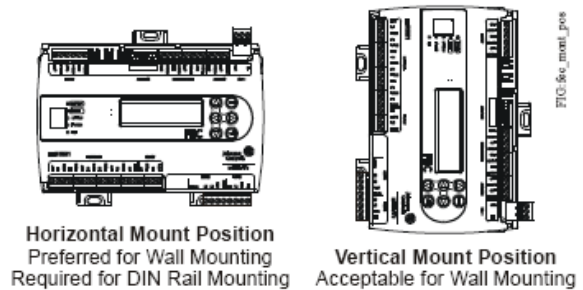
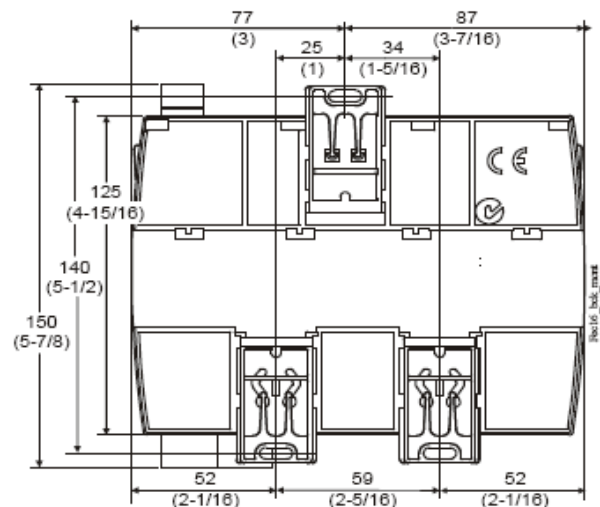

Figure 1: Controller Mounting Positions
Figure 2: Back of FEC16 Controller Showing Extended Mounting Clips, DIN Rail Channel, and
- Mount the FEC in the proper mounting position (Figure 1).
1. Securely mount a 20 cm (8 in.) or longer section of 35 mm DIN rail horizontal and centered in the desired space so that the controller mounts in the horizontal position shown in Figure 1.
2. Pull the two bottom mounting clips outward to the extended position (Figure 2).
3. Hang the controller on the DIN rail by the hooks at the top of the (DIN rail) channel on the back of the controller (Figure 2), and position the controller snugly against the DIN rail.
1. Pull the two bottom mounting clips outward and ensure they are locked in the extended positions as shown in Figure 2.
2. Mark the three mounting hole locations on the wall using the dimensions in Figure 2 and one of the mount positions shown in Figure 1 (or hold the controller up to the wall/surface in a proper mount position and mark the hole locations through the mounting clips.)